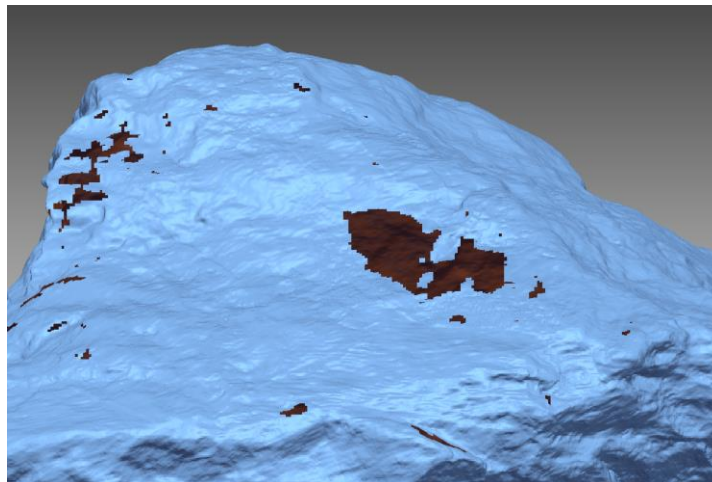

Figure 60
1. Navigate and zoom in to approximately the view shown in **Figure 60**.